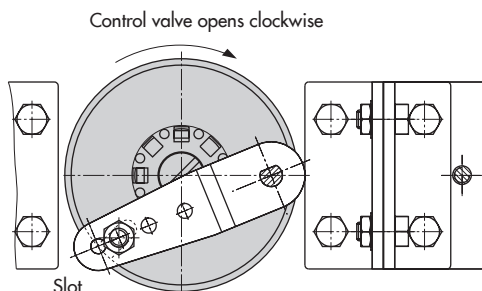

Fig. 5-23: Attachment to rotary actuators
- ➔ See Fig. 5-23
1. Place follower clamp (3) on the slotted actuator shaft or spacer (5).
2. Place coupling wheel (4) with flat side facing the actuator on the follower clamp (3). Align slot so that it matches the direction of rotation when the valve is in its closed position (see Fig. 5-23).
3. Fasten the coupling wheel (4) and follower clamp (3) tightly onto the actuator shaft using screw (4.1) and disk spring (4.2).
4. Fasten the bottom pair of brackets (10.1) with the bends pointing either facing to the inside or to the outside (depending on the actuator size) onto the actuator housing. Position the top pair of brackets (10) and fasten.
5. Mount connecting plate (6) or pressure gauge bracket (7) with pressure gauges on the positioner. Make sure that the two seals (6.1) are seated properly. Double-acting springless rotary actuators require the use of a reversing amplifier on the connection side of the positioner housing (see section 5.6.7).
6. Unscrew the standard follower pin (2) from the positioner's **M** lever (1). Use the metal follower pin ($\varnothing$ 5 mm) included in the mounting kit and screw tight into the hole for pin position **90°**.
7. Place positioner on the top bracket (10) and fasten tight. Taking the actuator's direction of rotation into account, adjust lever (1) so that it engages in the slot of the coupling wheel (4) with its follower pin (Fig. 5-23). It must be guaranteed that the lever (1) is parallel to the long side of the positioner when the actuator is at half its angle of rotation.
Legend for Fig. 5-22 and Fig. 5-23